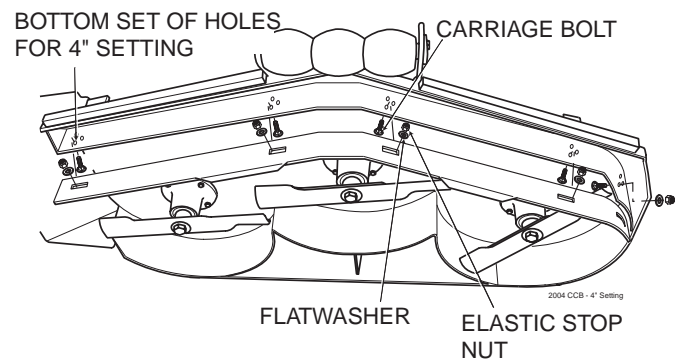

Figure 6-12. 4" Custom-Cut Baffle Position
- C. 4" Position (factory setting) - baffle is installed using the bottom set of holes on the front baffle welded inside the cutter deck. (See Figure 6.12, Page 29). Placing the baffle in the 4" setting will enhance fall cutting (leaf pickup) and reduce cutter deck "blowout".